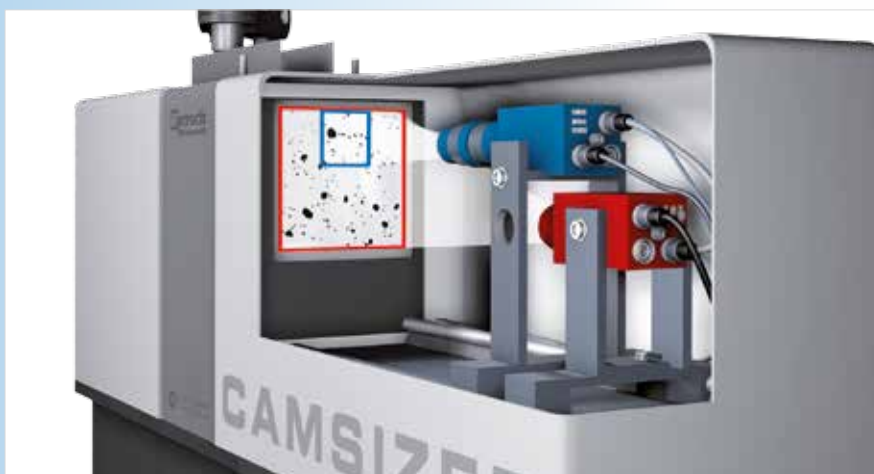

Fig. 2: Dual Camera Technology CAMSIZER P4
**ented dual camera technology** (fig. 2): two cameras with different image scales simultaneously detect the particles. A zoom camera with a smaller field of view and a basic camera with a larger field of view at a lower resolution are linked by the software to allow for **evaluation of wide particle size distributions in one measurement**. Therefore, it is possible to cover a size range of three decades and produce reliable measurement statistics.